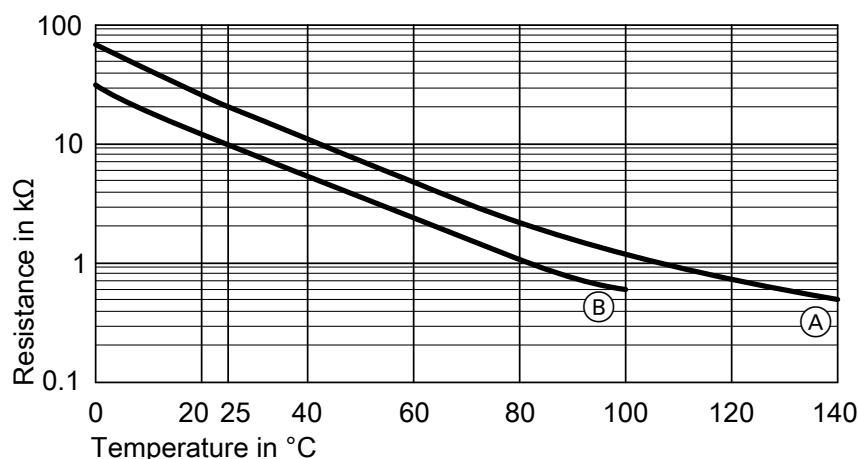

Fig. 3
1. Pull plug of relevant temperature sensor from SDIO/SM1A electronics module (A) and check the sensor resistance.
2. Compare the sensor resistance to the curve (see Fig. 3).